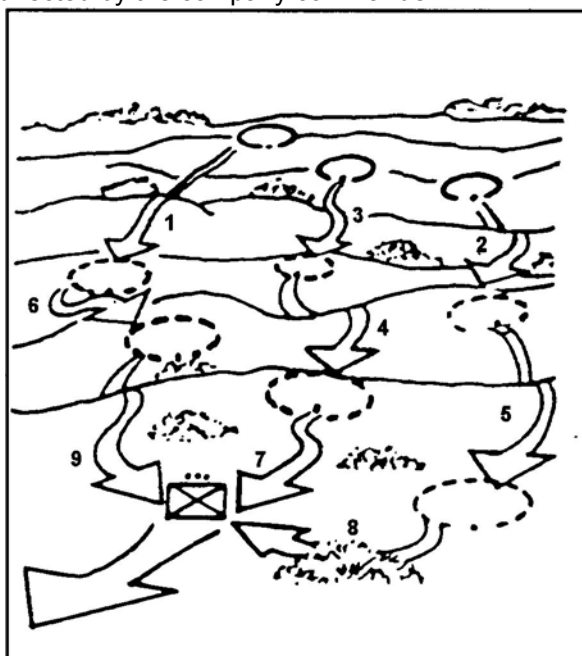

Figure 5. Bounding overwatch to the rear.
5. At some point in the action, the platoon can stop fire and maneuver. It then continues its withdrawal by bounding overwatch to the rear (Figure 5). This occurs when the platoon is no longer under enemy direct fire or when another platoon is covering its move. Once disengagement is complete, the platoon moves as directed by the company commander.